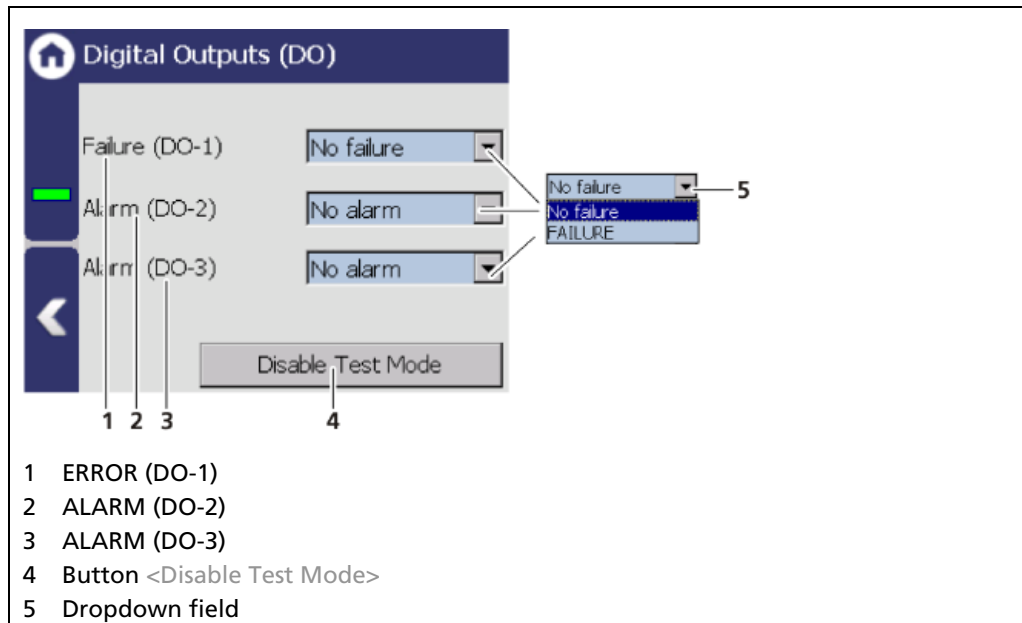

Fig. 117 Simulation Digital Outputs
1. Click on the dropdown field (Fig. 117, item 5) and select "FAILURE" or "ALARM" for the simulation.
2. Click on the <Disable Test Mode> button (Fig. 117, item 4) to stop the simulation.